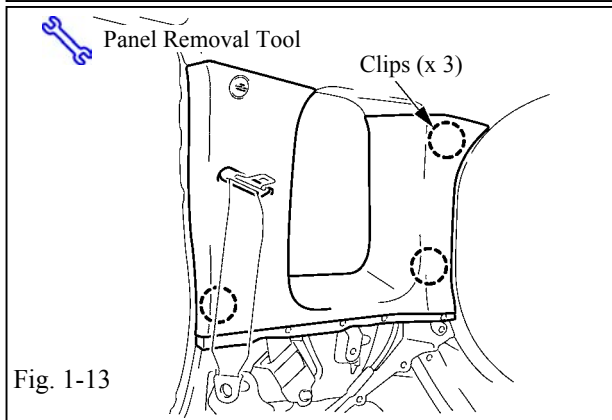

Fig. 1-13
- (1) Disengage the clips except for the upper left one. (Fig. 1-13)